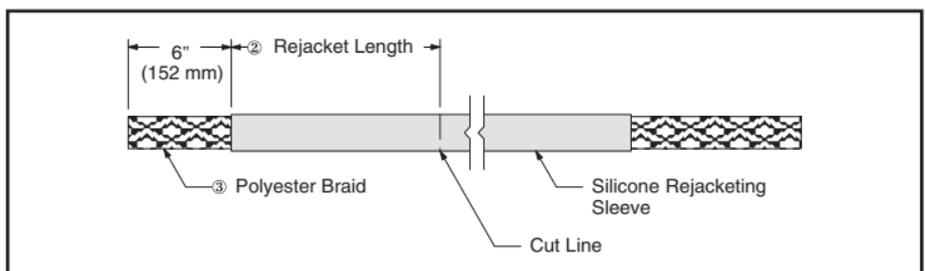

Figure 2
3. Select end of assembly with shorter, 6 " (152 mm), polyester braid exposure (③, Figure 2). Using scissors or sharp knife, cut sleeve/ braid assembly to desired length (②, Figure 2).
4. **Additional Cuts:** Pull 6" (152 mm) of inner polyester braid out beyond silicone re-jacketing sleeve (③, Figure 2). Cut sleeve/braid assembly to desired length.